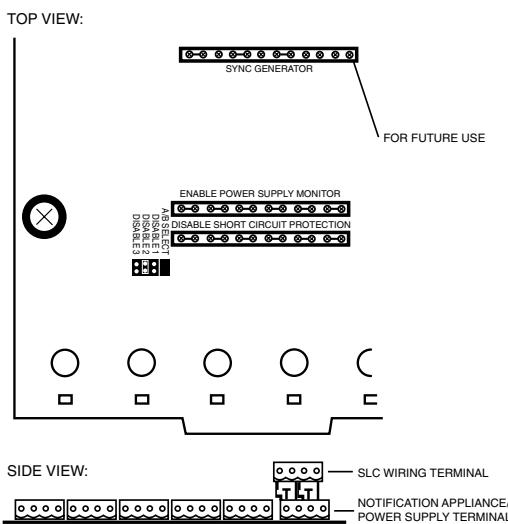

Figure 1
4. A shunt is provided to disable a maximum of three unused modules (see Figure 1). Modules are disabled from the highest address and work downward. If two modules are disabled, the lowest four addresses will be functional, while the highest two will be disabled. For example, if the shunt for Address Disable is placed on "two" and the base address switch is set to 28, the modules will be assigned to 28, 29, 30 and 31, disabling the higher two positions.
6. There is a power supply monitor that must be enabled to facilitate short circuit protection (see Figure 1). The module is shipped with power supply monitoring enabled represented by six large shunts on the pins of the "Enable Power Supply Monitor" area.